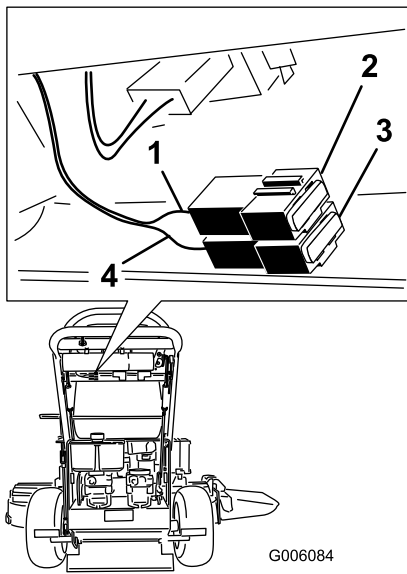

Figure 40
2. Pull out on the fuse to remove or replace it (Figure 40).
Note: Ensure the correct size fuse is install with the correct wire color as shown in Figure 40.